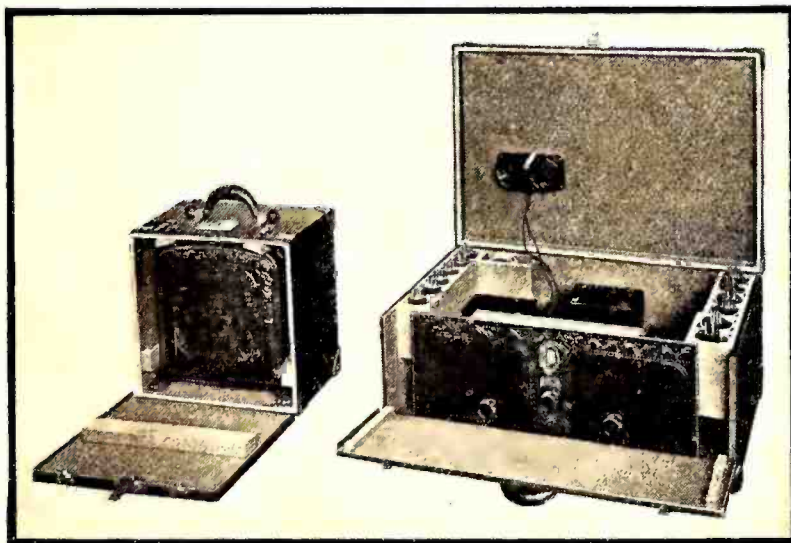

Fig. 1—Portable radio receiving apparatus that suggests a useful adjunct to the serviceman's equipment for determining general receiving conditions
**A Portable Receiver To Check General Conditions:** The Kolster Radio Company provides its dealers with a portable demonstration set possessing several points of interest that recommend similar outfits for the serviceman. The complete apparatus is pictured in Fig. 1, and consists of two carrying cases, one holding the receiver, tubes and power supply, and the other the loud speaker. A portable receiver of somewhat similar design is of inestimable value to the serviceman in solving the more general problems of poor reception. The inability of a receiver being serviced to receive certain stations can be checked against a standard receiver, the characteristics of which are well known to the serviceman, to determine whether it is the location or the receiver that is at fault.